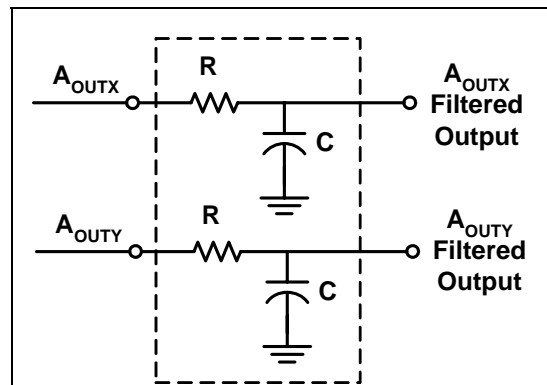

Figure 4: Low Pass Filter
**Low Pass Filter:** An external low pass filter is useful in low frequency applications such as tilt or inclination. The low pass filter limits the noise floor and improves the resolution of the accelerometer. **When designing with MEMSIC ratiometric output accelerometers (MXRxxxx series), it is highly recommended that an external, 20 Hz low pass filter be used to eliminate internally generated periodic noise that is coupled to the output of the accelerometer.** The low pass filter shown in Figure 4 has a –3dB breakpoint given by the equation:  $f = \frac{1}{2\pi RC}$ . For the 200 Hz ratiometric output device filter,  $C=0.2\mu F$  and  $R=39k\Omega$ ,  $\pm 5\%$ ,  $1/8W$ .